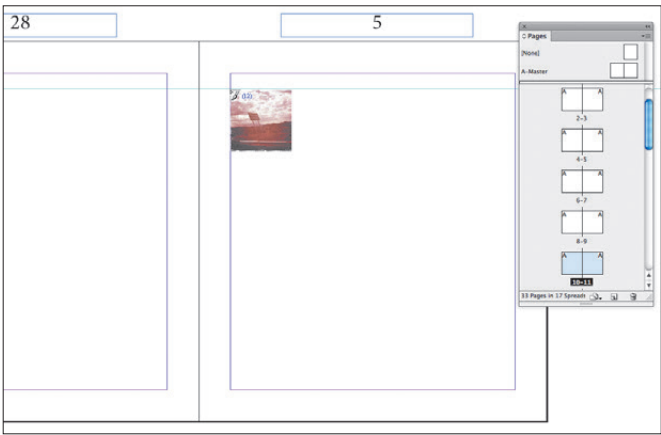

FIGURE 17.22 Place images on the appropriate pages.
10. You'll see a loaded cursor in InDesign. The cursor now holds all 12 image files. Place the cursor at the intersection of the top guide and left margin on the page you labeled as page 5 (page 11 in the Pages panel) and click once (FIGURE 17.22). The first image loads on the page, and the cursor still holds the remaining 11 images.